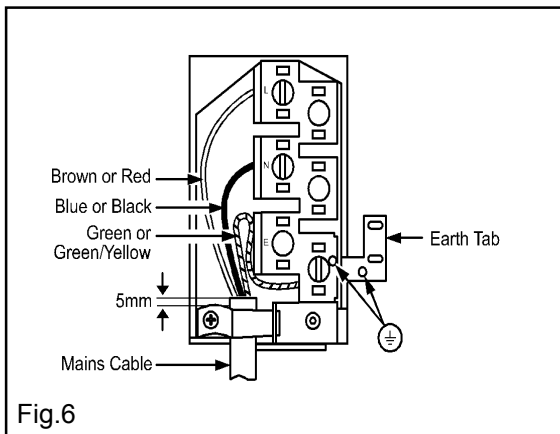

Fig.6
- **Do not** remove the screws from the earth tab extending from the oven mains terminal block (Fig. 6).
- Make connection as shown in Fig. 6 by proceeding as follows:-
- Clamp the mains cable securely ensuring 5mm of the outer insulation is inside the terminal block and that the wires are not taught but not so slack as to cause any fouling. See Fig.6.